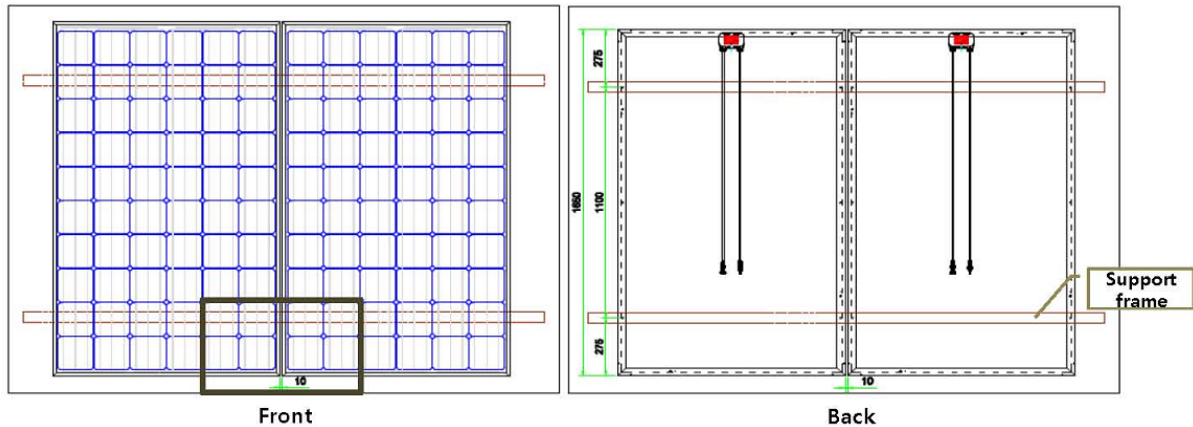

Figure 6A: Example Mounting Method
- 1) Secure the module to the structure using the factory mounting holes or along the module frame above the factory mounting holes (refer to Figure 6A)